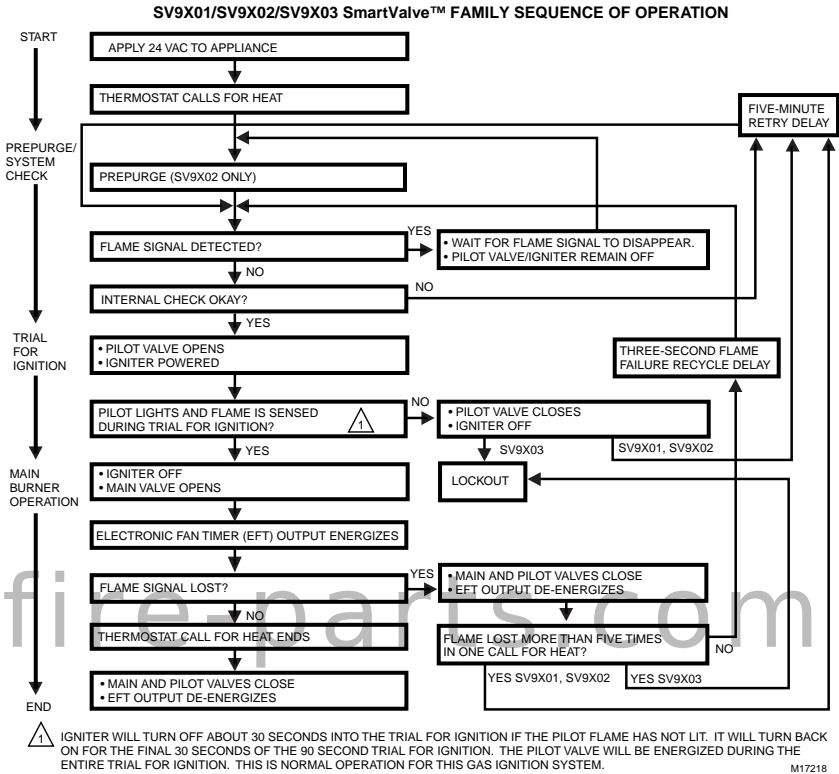

Fig. 13. SV9401/SV9402/SV9403, SV9501/SV9502/SV9503, SV9601/SV9602 SmartValve sequence of operation.
Fig. 13 shows the sequence of operation for this family of gas controls. When reviewing sequence of operation:
4. If the appliance does not light, check for proper ignition control system operation. Use Fig. 13.
6. Follow the Operating Sequence and Troubleshooting flow charts Fig. 13 and Fig. 14 to determine if the ignition control system is defective.